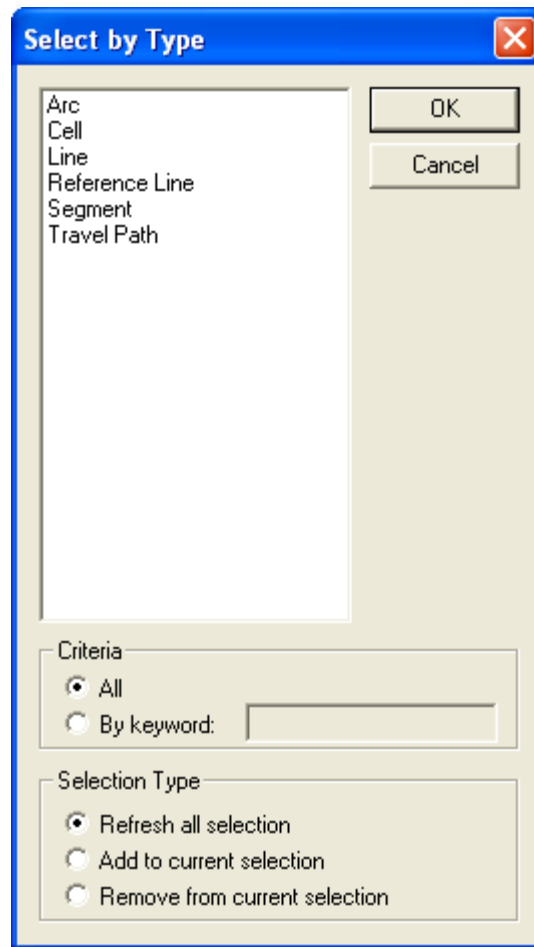

FIGURE 2.3-3 SELECT BY TYPE DIALOG BOX
**Select by Type.** This button is used to open a dialog box (Fig. 2.3-3) in which one or more component types can be selected as a group. For example, all columns or all support lines can be selected at once. To use the tool, do the following: